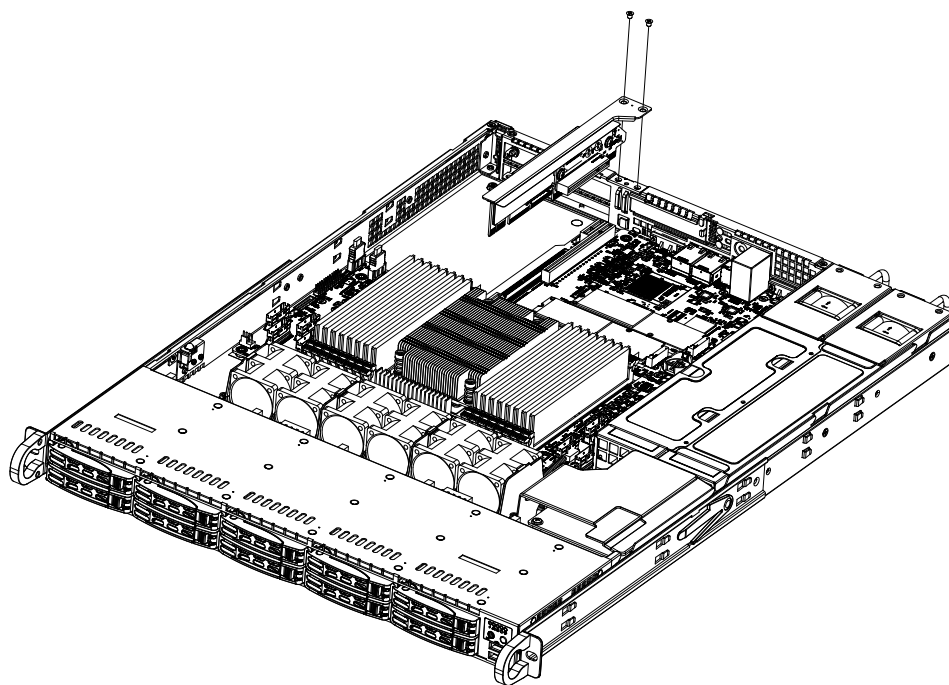

Figure 3-3. Removing the Riser Bracket
3. Install the riser card on the bracket with the two screws provided, see Figure 3-3.